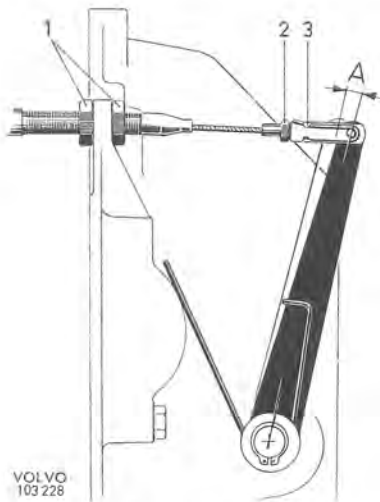

Fig. 4-3. Release lever play
Correct clutch pedal play is obtained by adjusting the release lever so that on left-hand steered vehicles a play of 4—5 mm (0.16—0.20"), A in Fig. 4-3, is obtained. Play is adjusted by unscrewing or screwing the fork (3) on the clutch wire. If this adjustment is insufficient,